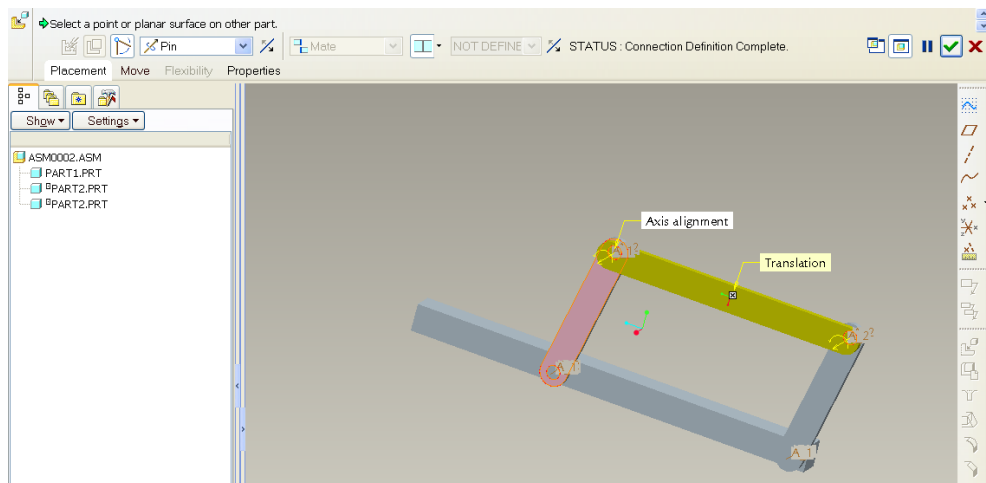

Figure 12
- Choose Surface F8 on part3 and surface F6 on part2 for translation as shown in figure 12 and click . The mechanism is fully connected.